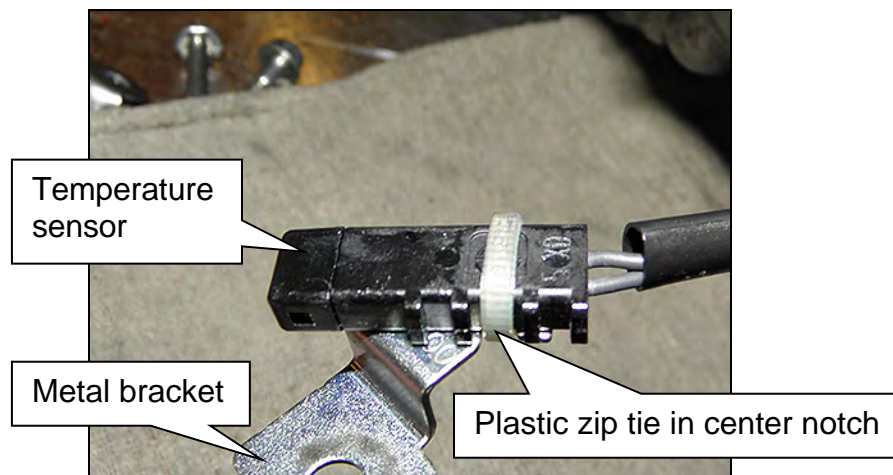

Figure 28
- a. Cut the plastic zip tie with an appropriate tool to remove the temperature sensor bracket from the terminal harness assembly. (Figure 28).